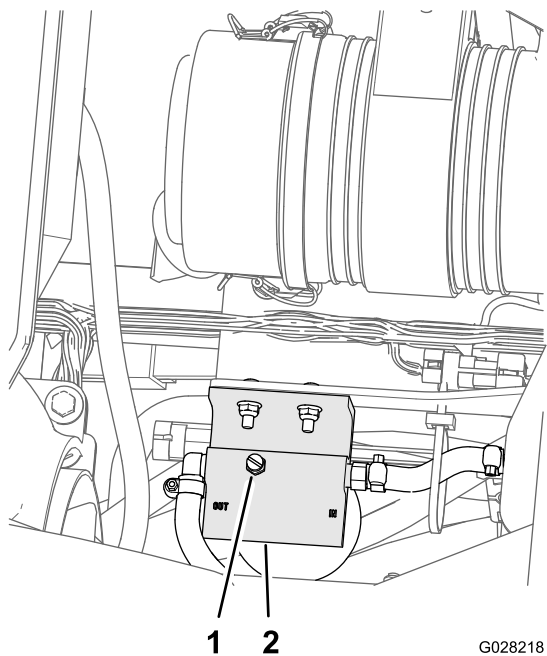

Figure 79
- Loosen the vent plug at the top of the fuel/water separator (Figure 79).
7. Tighten the vent plug and turn the starter switch to the OFF position (Figure 79).